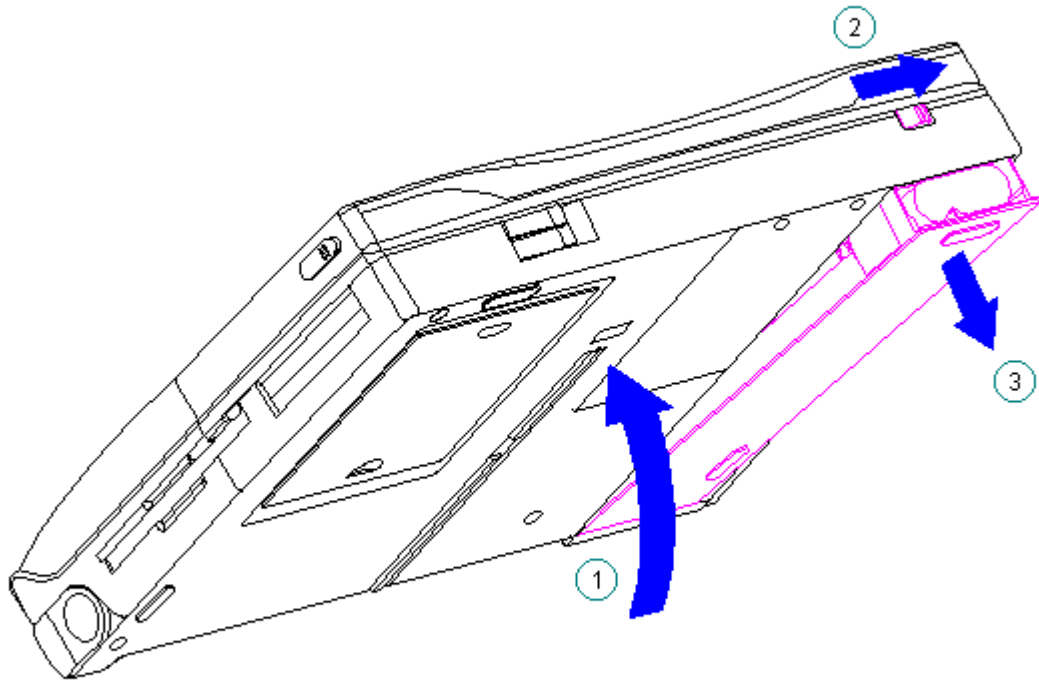

Figure 3-3. Opening the Battery Compartment
7. Open the battery compartment by lifting up the front of the computer [1] and sliding the battery compartment release button to the right [2]. The battery compartment opens slightly. Lower the compartment [3] (Figure 3-3).